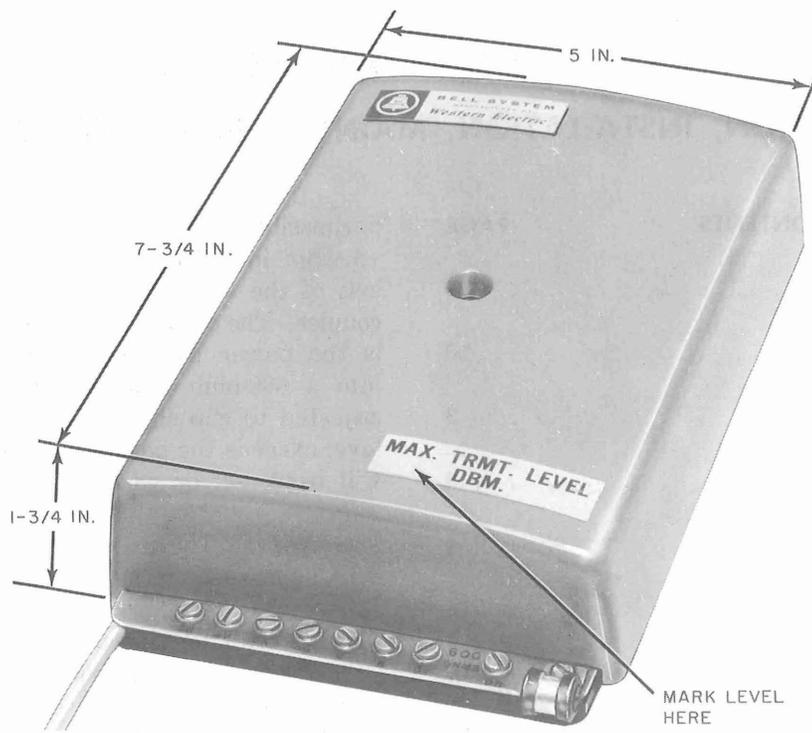

Fig. 1—Data Coupling Unit F-58118
1.01 This section contains installation and maintenance information for Data Coupling Unit F-58118 (Fig. 1 and 2). Detailed information is contained in ES- and CD-1D195-02.
**3.09** The maximum allowable customer signal level is the same as the level option strapped. This value is determined by the OPTION LEVEL STRAPPING column in Table B. Record the value, with pencil or ball-point pen, on the label on the cover of the coupling unit (Fig. 1). Using the example in 3.08, "-4" would be marked on the label.